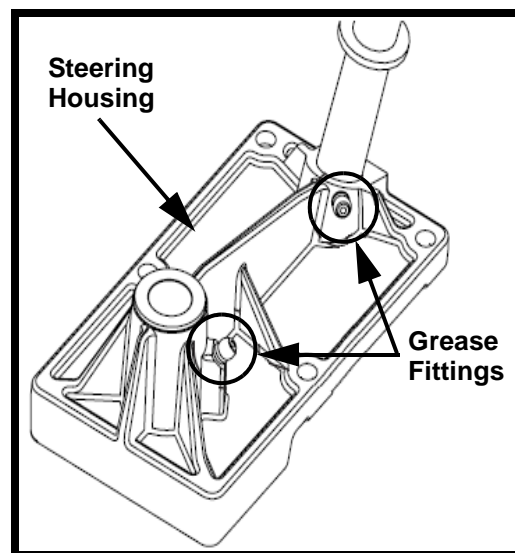

FIGURE 16
45. Locate the grease fittings on the steering housing for the steering shafts. See Figure 16. Apply grease to the fittings using a grease gun containing 251HEP grease (737-3034), or an equivalent No. 2 multipurpose lithium grease. **Do Not** over grease.